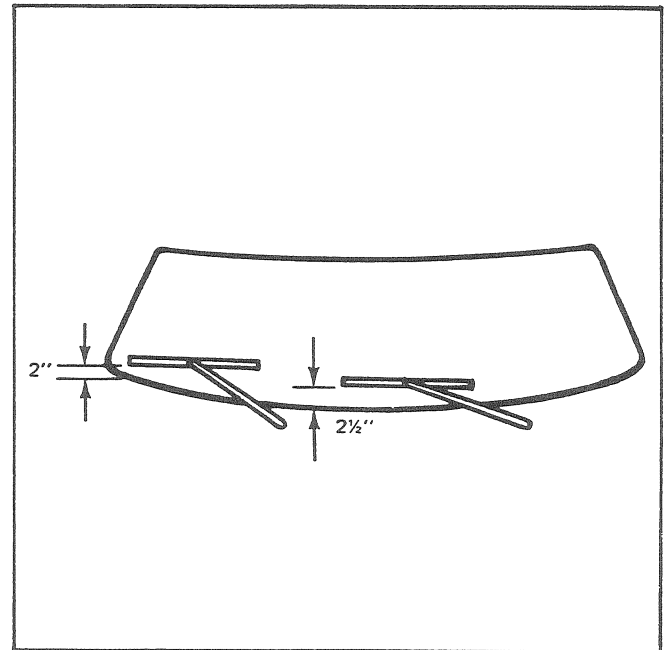

Fig. 9 – Article No. 113
24. Install short wiper arm and blade assembly on passenger side of vehicle so that the furthest edge of the wiper blade is 2.00 inches above the windshield lower rubber weather seal. (See Fig. 9)
25. Position the long wiper arm and blade assembly on the driver's side so that the furthest edge of the wiper blade is initially located 2.50 inches above the windshield lower rubber weather seal. (Fig. 9)